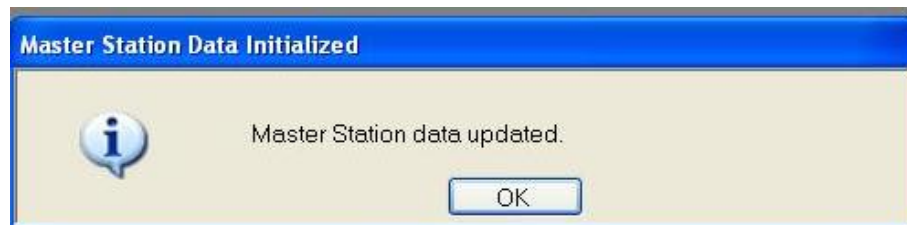

Figure A-15: Master Station Data Initialized Window
- Click **OK** to proceed. If initialization is successful, the *Master Station Data Initialized* window will display indicating *Master Station data updated* (Figure A-15).